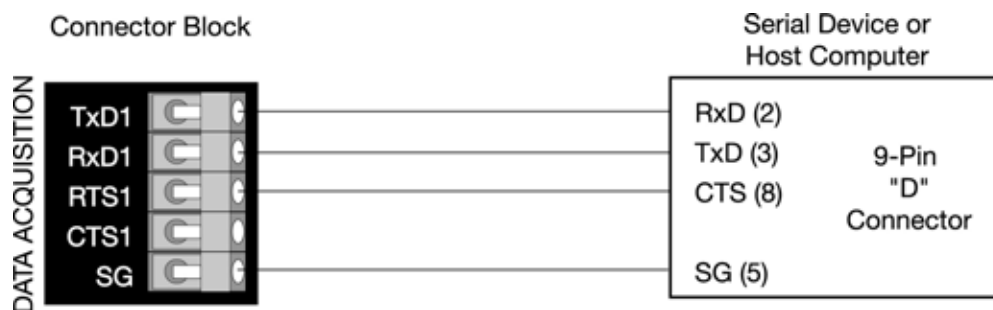

Fig 12-1 : Serial Wiring
- 5) Make the necessary connections to the Analyzer's DATA ACQUISITION Port Terminals as shown in Figure 12-1.